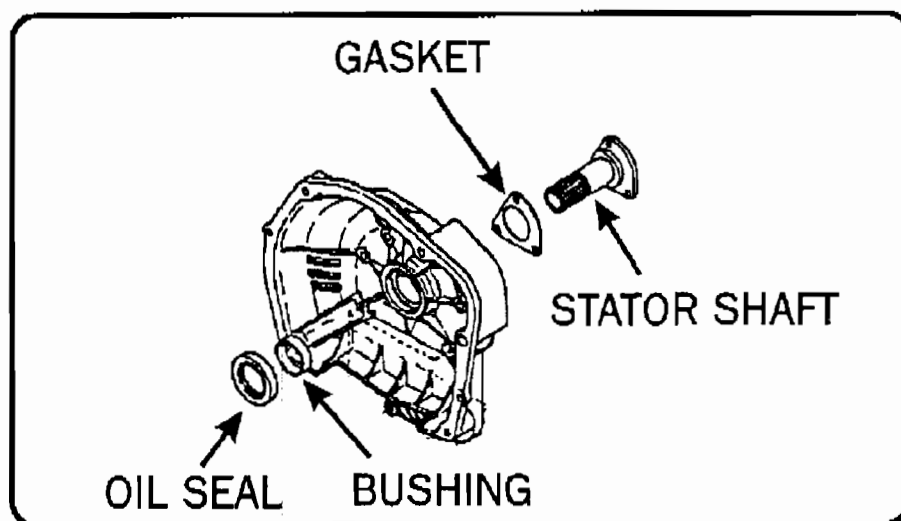

Figure 2.
3. Orient the stator support and the gasket gasket so that both have the rounded side toward the starter hole in the bell housing. See figure 2. Also be sure that no sealer (silicone etc.) plugs or restricts the drain or cooler passages at the rear of the bell housing.